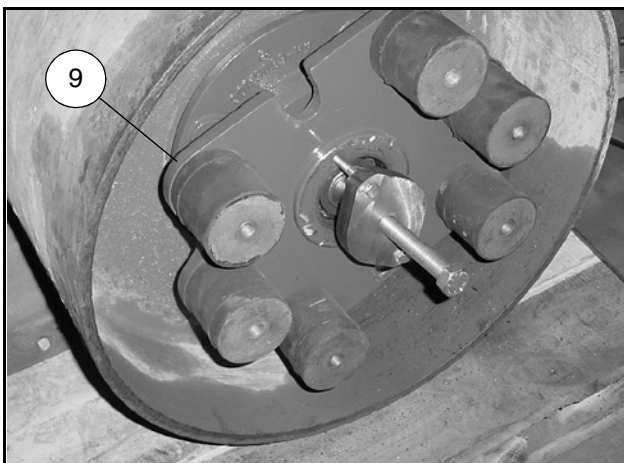

Figure 4
5. Pull the inner bearing housing (9) from the shaft, Figure 4.